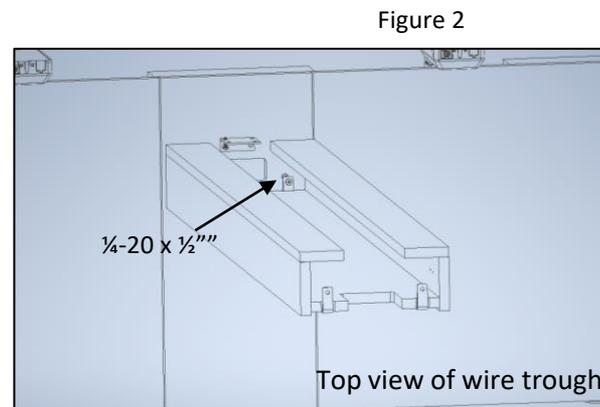

Figure 2
- 2. Attach the L-bracket to the panel using the screws provided. Screws will go into the L-Brackets against the panel (Figure 2)**